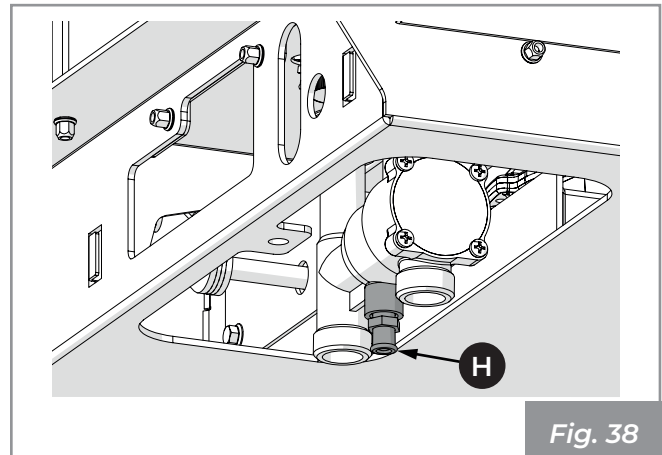

Fig. 38
- 1) Connect a rubber hose to the system drain (H) and open it, then open the relief valve to allow the water to flow until the appliance is completely empty. Close the relief valve and the tap (Fig. 38).